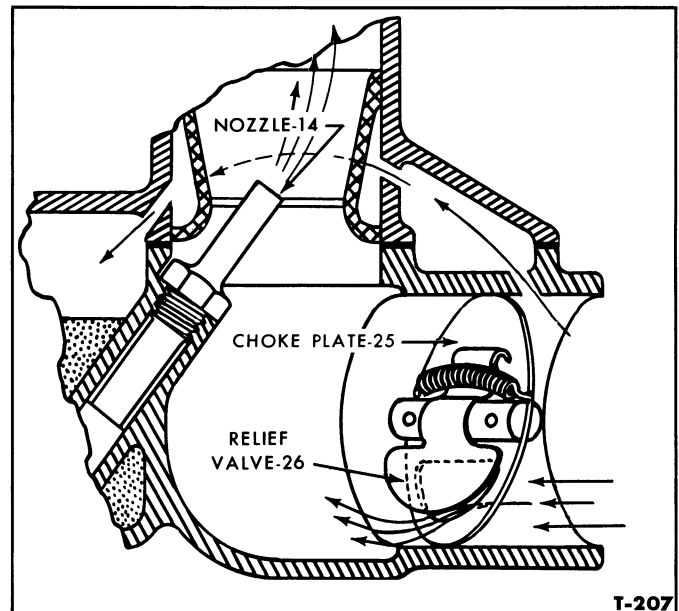

Figure 5—Choke System
4. The function of the choke plate is to restrict the air flow into the carburetor which causes a higher vacuum on the discharge nozzle, giving a richer mixture for starting purposes. The choke plate and choke system are shown in Figure 5. A small movement in the choke plate causes a great change in the fuel air mixture.